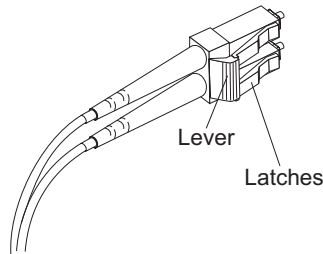

Figure 35. LC-LC Fibre Channel cable lever and latches
1. On the end of the LC-LC cable that connects into the SFP module or host bus adapter, press down and hold the lever to release the latches, as shown in Figure 35.